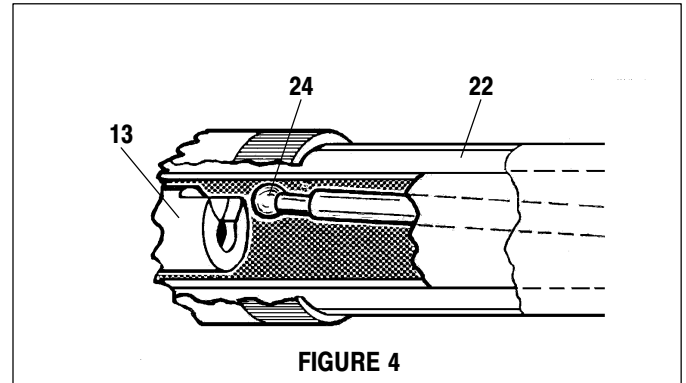

FIGURE 4
- Check to see if the connecting rod has disassembled from the mating rod. See assembly of lower pump end (figure 4).
- Check for worn or damaged (9) upper piston.